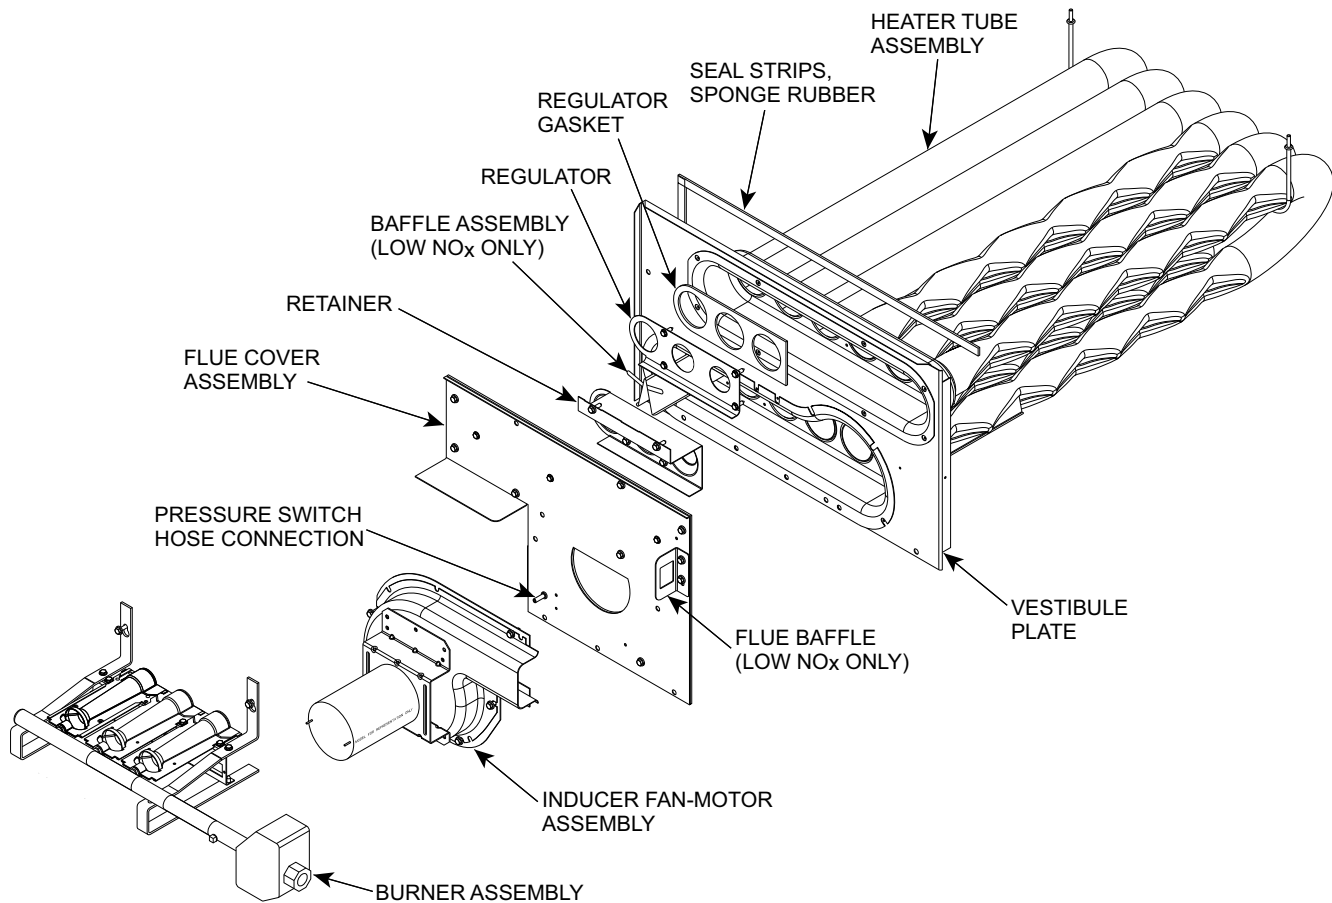

Fig. 45 — Heat Exchanger Assembly
1. Remove the combustion blower wheel and motor assembly according to directions in Combustion-Air Blower section. See Fig. 45.
2. Remove the seven screws attaching the induced-draft motor housing to the vestibule plate. (See Fig. 45.)
9. Remove the two screws attaching the burner rack to the vestibule plate (see Fig. 45).
10. Remove the pressure switch hose from the connection on the flue cover assembly (see Fig. 45).
14. Separate the following from the heat exchanger: inducer fan-motor assembly, flue cover assembly, retainer, regulator, regulator gasket, and if a Low NOx unit, also remove the baffle assembly. See Fig. 45.